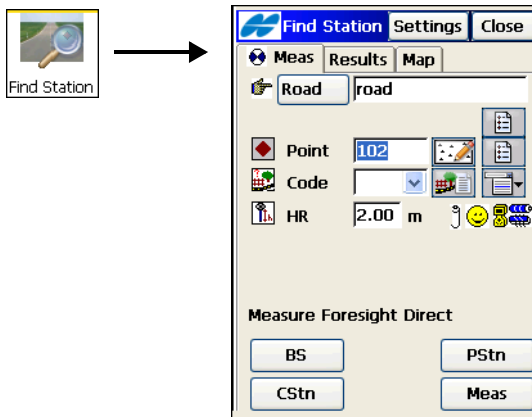

Figure 11-25. Find Station – Measurement Tab
The *Meas* tab (Figure 11-25) on the *Find Station* screen identifies the station by computing the distance from the beginning of the road to the projection of the station to the road, and the offset of the station from the center line of the road.
- **Meas** – computes the result and takes the sideshot to the point. The result is reflected on the *Results* tab (Figure 11-25 on page 11-27).